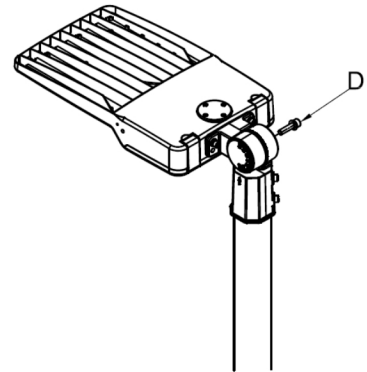

Fig. 11
5. Tighten the locking bolt at D, as shown in Fig. 11.